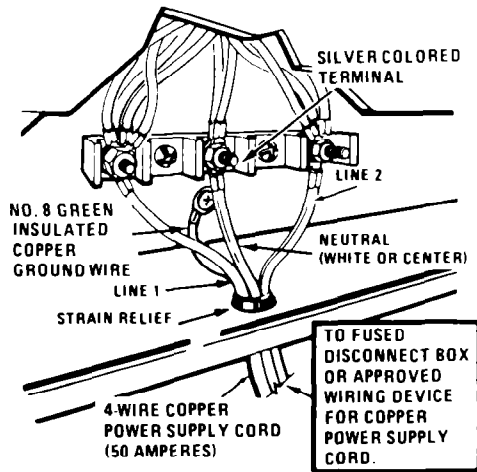

FIGURE 7
- C. Connect the ground wire (green) of the copper power supply cord to the frame of the appliance with the ground screw, using the hole in the frame where the ground strap was removed. See **Figure 7**.